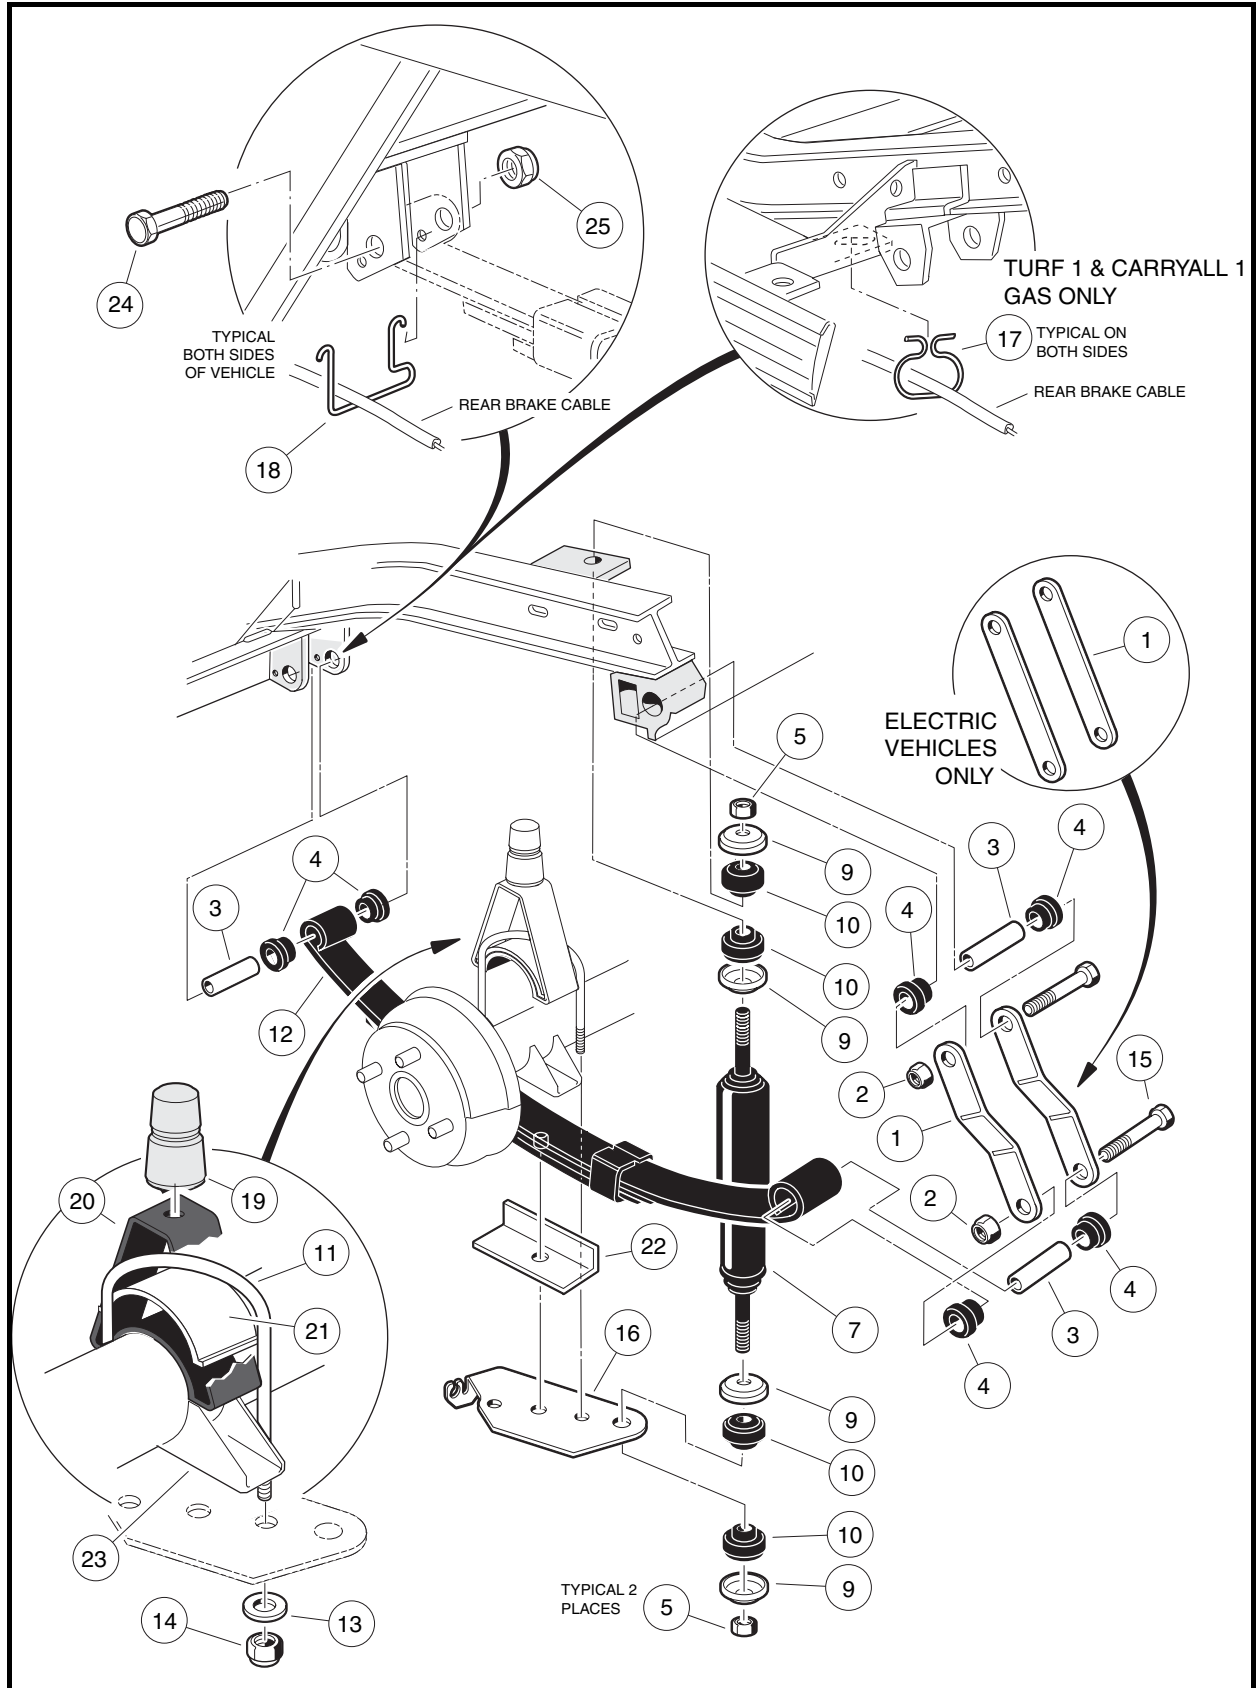
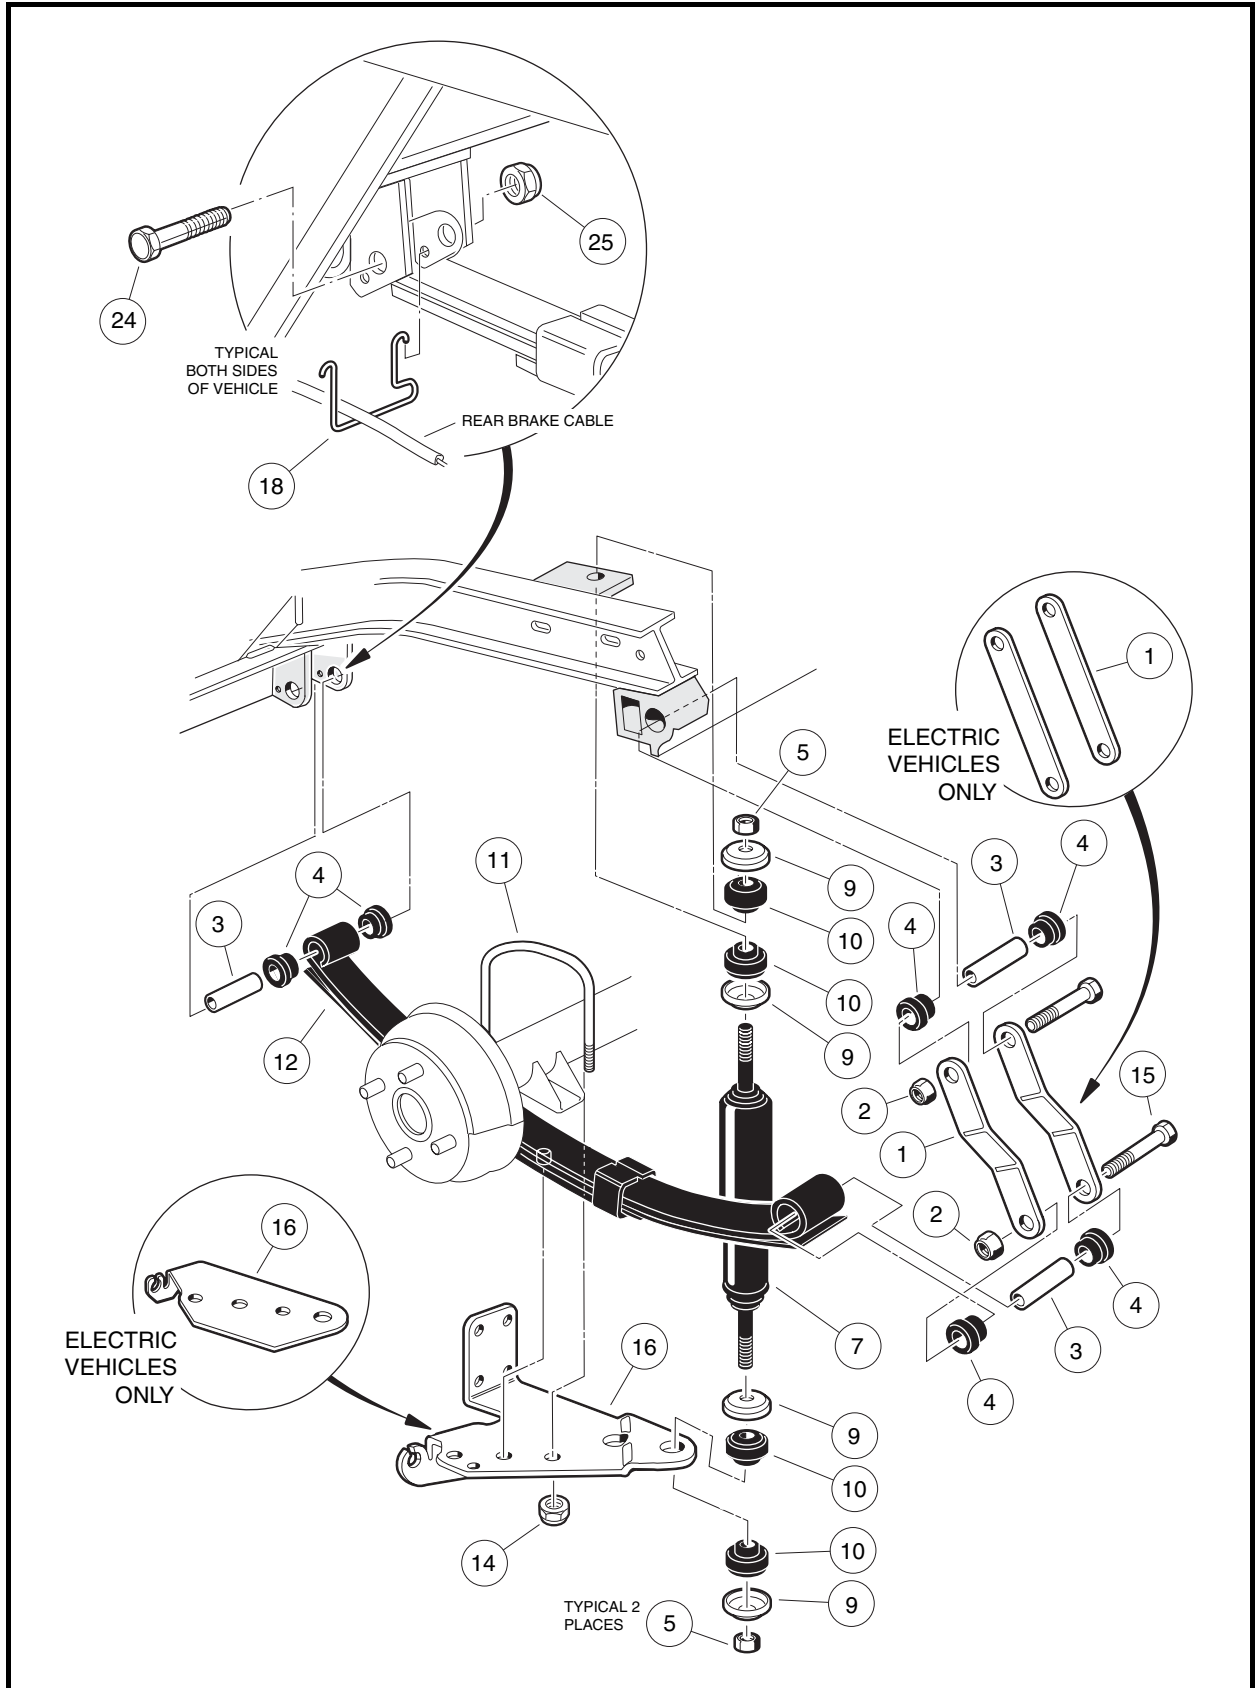

Figure 9-3 Rear Suspension – Turf 1 and Carryall 1 Vehicles
Figure 9-4 Rear Suspension – All Turf and Carryall Vehicles Except Turf 1 and Carryall 1
1. Check shock absorbers (7) for damage and fluid leakage around the lower housing of the shock absorber body. Replace damaged or leaking shock absorbers (**Figure 9-3, Page 9-4 or Figure 9-4, Page 9-5**).
2. To remove a shock absorber (7), remove the nut (5), cup washer (9), and rubber bushing (10) from the upper shock absorber stem.
3. Remove lower mounting hardware (5, 9 and 10) on shock absorber lower mount (**Figure 9-3, Page 9-4 or Figure 9-4, Page 9-5**). See also **Figure 9-1, Page 9-1**.
2. On the upper shock absorber mount, tighten nut (5) until rubber bushing (10) expands to size of cup washer (9) (**Figure 9-3, Page 9-4** or **Figure 9-4, Page 9-5**).
3. On the lower shock absorber mount, install mounting hardware. Tighten the nut (5) until the rubber bushing (10) expands to the same diameter as the cup washer.
(**Figure 9-3, Page 9-4**).
5. Remove lower nut (5), cup washer (9), and rubber bushing (10) from shock absorber (7) (**Figure 9-3, Page 9-4 or Figure 9-4, Page 9-5**).
- 6.1. Remove the lock nuts (14) and flat washers (13) (if present) attaching the U-bolt (11) to the shock mount bracket (16). Remove jounce bumper mount (20) and spacer (21) (**Figure 9-3, Page 9-4**).
- 6.2. Allow shock mount bracket (16) to rotate downward and remove spring retainer (22). Do not disconnect brake cable from bracket (**Figure 9-3, Page 9-4**).
7. **All Turf and Carryall vehicles except Turf 1 and Carryall 1:** Remove the lock nuts (14) attaching the U-bolt (11) to the shock mount bracket (16). Do not disconnect brake cable from bracket (**Figure 9-4, Page 9-5**).
8. Raise axle with floor jack until axle saddle (23) is 1 inch (2.5 cm) above spring (**Figure 9-3, Page 9-4**).
9. Remove bolt (15) and lock nut (2) attaching the leaf spring (12) to the rear shackle (1) (**Figure 9-3, Page 9-4 or Figure 9-4, Page 9-5**).
10. Allow rear of leaf spring (12) to rest on the ground and remove the bolt (24) and lock nut (25) attaching the front of the spring to the vehicle frame (**Figure 9-3, Page 9-4 or Figure 9-4, Page 9-5**). Remove spring from vehicle.
11. Inspect the rubber bushings (4) and steel sleeves (3) in the spring eyes and replace them if they are worn or damaged (**Figure 9-3, Page 9-4 or Figure 9-4, Page 9-5**).
1. Install rubber bushings (4) and steel sleeves (3) into leaf spring eyes if bushings were removed (**Figure 9-3, Page 9-4 or Figure 9-4, Page 9-5**).
2. Place front of leaf spring (12) into vehicle frame and insert bolt (24) through frame and leaf spring eye. Install lock nut (25) and tighten to 15 ft-lb (20.3 N·m).
3. Align the other end of leaf spring with the holes in the spring shackles (1). Insert bolt (15) through leaf spring eye and shackles. Install lock nut (2) and tighten to 15 ft-lb (20.3 N·m). Lower transaxle onto leaf spring (12). **See following CAUTION.**
- **When placing transaxle on spring, be sure to position locating bolt on the spring in the locating hole in the transaxle saddle (23) (Figure 9-3, Page 9-4).**
- 4.1. Install spring retainer (22) and shock mount bracket (16) onto locating bolt at bottom center of leaf-spring (**Figure 9-3, Page 9-4**). **See preceding CAUTION.**
- 4.2. Position jounce bumper mount (20) with spacer (21) onto axle tube. Install U-bolt (11), flat washers (13) (if present), and lock nuts (14). Tighten U-bolt to 25 ft-lb (34 N·m) (**Figure 9-3, Page 9-4**).
**5. All Turf and Carryall vehicles except Turf 1 and Carryall 1:** Install shock mount bracket (16) onto locating bolt at bottom center of leaf-spring (**Figure 9-4, Page 9-5**). **See following NOTE.**
- 5.1. Install U-bolt (11) and lock nuts (14). Tighten U-bolt to 25 ft-lb (34 N·m) (**Figure 9-4, Page 9-5**).
1. Grip jounce bumper (19) and pull from bumper mount (20) (**Figure 9-3, Page 9-4**).
1. Insert jounce bumper (19) into bumper mount (20) (**Figure 9-3, Page 9-4**). Make sure the entire circumference of bumper is seated firmly in mounting hole.